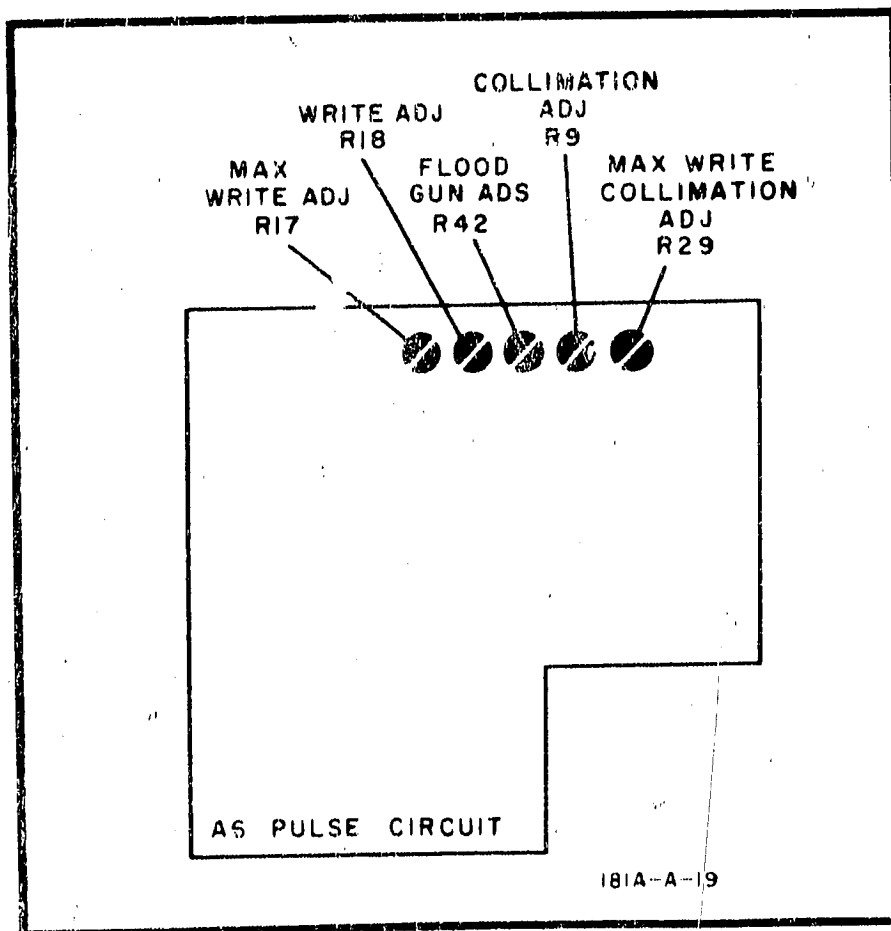

Figure 5-4. Pulse Board Adjustments
b. Depress ERASE pushbutton for 2 seconds. Display should resemble Figure 5-5A. If the display does not resemble Figure 5-5A, but instead fills the entire screen, omit steps c and d and proceed with step e. See Figure 5-4 for location of adjustment.